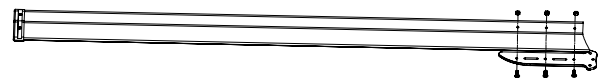

FIGURE 13
A) Attach each fan blade to a blade arm with three blade screws and three nuts. (See Figure 13)